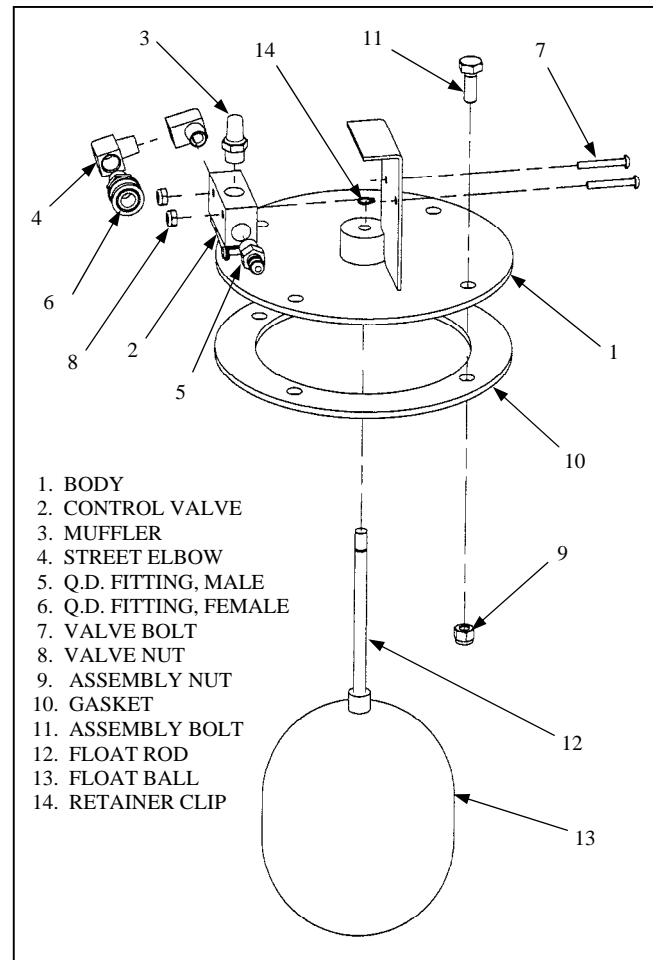

Figure 5-7. Auto Shut-off Assembly
5.3.5 Auto Shut-off Assembly. The auto shut-off assembly is located in the front of the tank weldment. Use Figure 5-7 for the following maintenance steps.